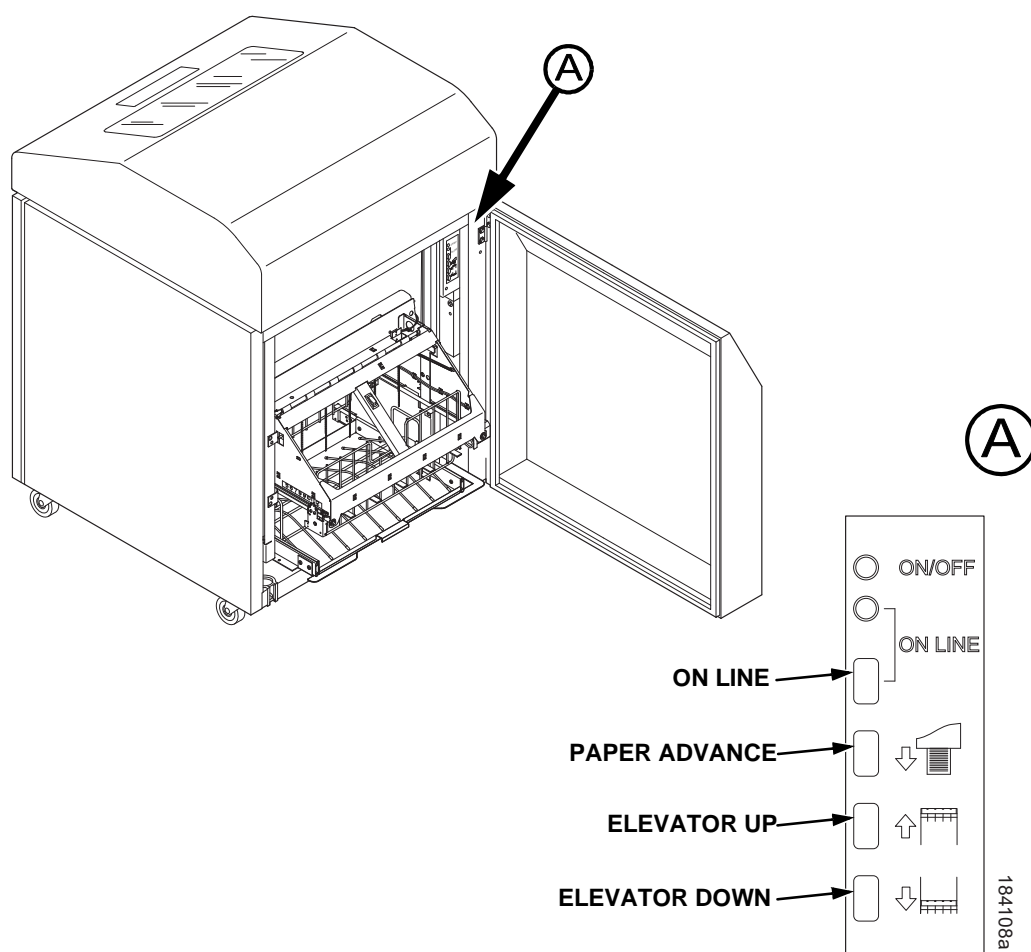

Figure 37. The Rear Control Panel
2. If necessary, press the **ONLINE** key on the front panel or rear control panel to take the printer offline. (Figure 37.)
3. Press the **ELEVATOR UP** key and wait for the elevator assembly to reach the top of its travel. (Figure 37.)